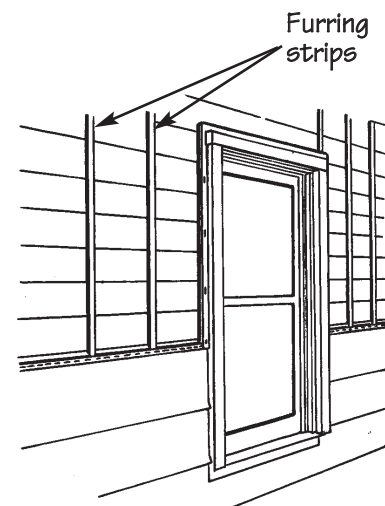

Figure 23.
- Check all walls for evenness and install furring strips where necessary (Fig. 23).